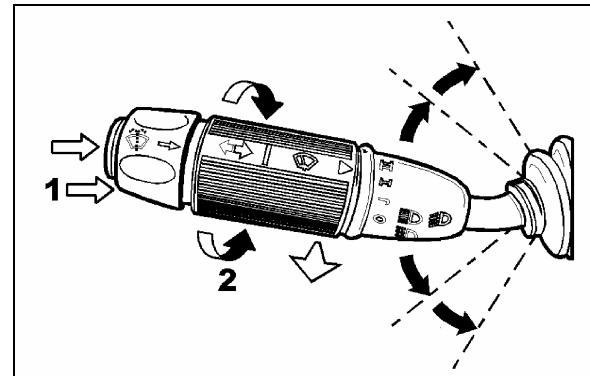
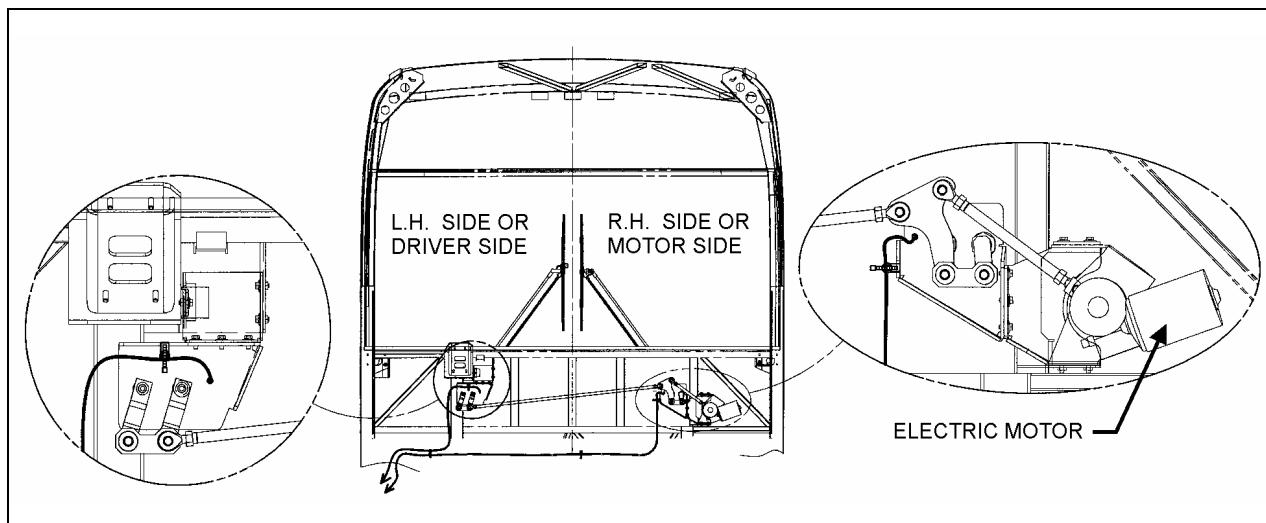

FIGURE 34: MULTIFUNCTION LEVER
FIGURE 36: WINDSHIELD WIPER INSTALLATION
The windshield wipers are controlled by one electric wiper motor that is accessible for maintenance after removing the appropriate access panel beside the footwell (refer to figure 36). Turn the multifunction lever forward to activate windshield wipers (item 2, fig. 34). The first position operates the wipers at low speed and the second position operates the wipers at high speed. Turning the lever backwards will operate the wipers in the intermittent mode.
The windshield washer pumps are electrically operated and are controlled by a washer control ring on the multifunction lever (item 1, fig. 34).
The windshield wiper motor is located at lower front of the vehicle, behind the defroster panel. Refer to figure 34 for motor location.